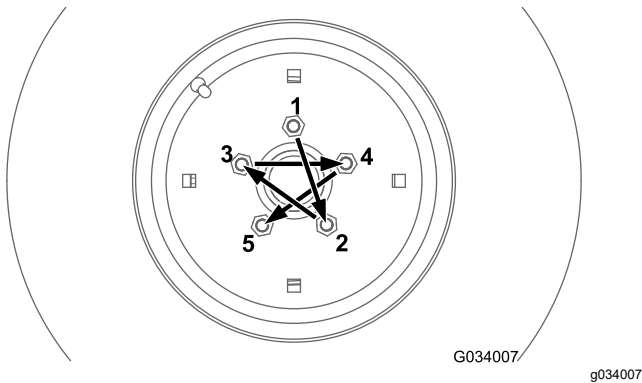
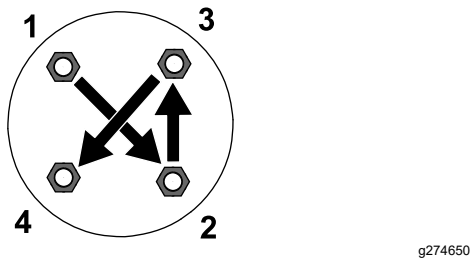

Figure 69
Figure 70
Torque the lug nuts at the front and rear wheels (4-wheel-drive machines only) in the pattern as shown in Figure 69 and Figure 70 to the specified torque.
- Front wheels: refer to Figure 69
- Rear wheels (4-wheel-drive machines only): refer to Figure 70